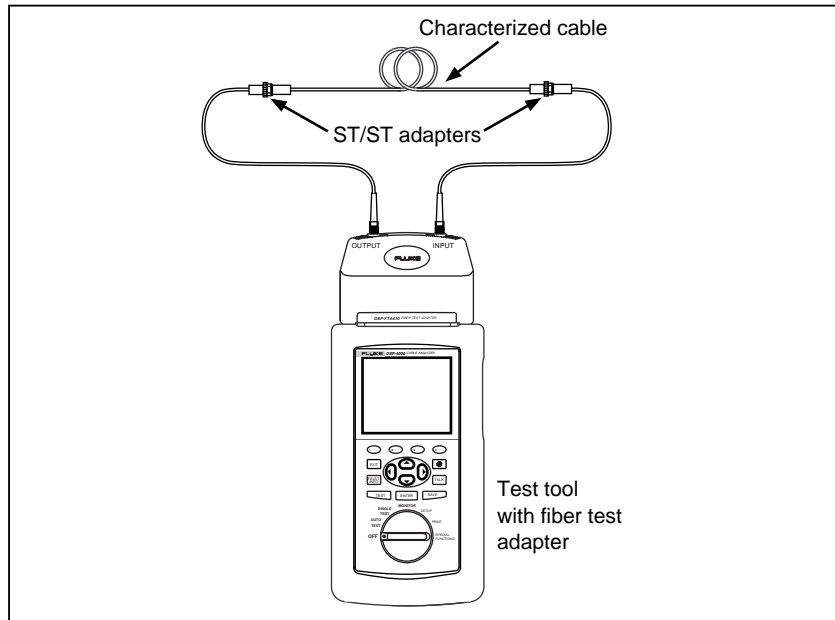

Figure 2. Verifying Length Measurements in Loopback Mode
5. Connect the characterized 2000 m ST/ST multimode cable between the patch cords as shown in Figure 2. Run the **Total Length** test. Verify that the length measurement is within $\pm 1.5\%$ (± 1 m) of the characterized length. Press **EXIT**.